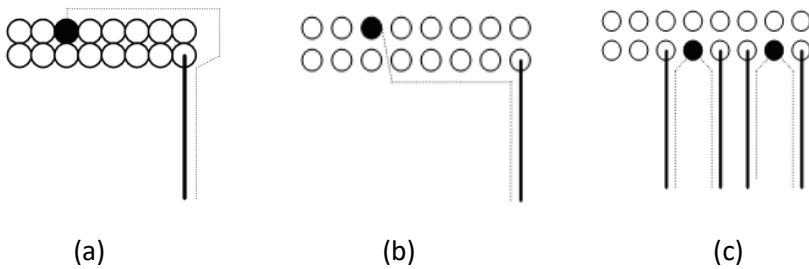

Figure 4.1
4.2.2: Excessive Pin Clearance: Figure 4.1 (a) illustrates a trace leading to a pin on a connector. Clearance pads are so large that there is no copper for the return trace to find its way through to a ground pin. Thus, the return signal must circle around the connector to the ground pin, causing what might be a significant loop resulting in unacceptable EMI radiation. A better strategy is to limit the clearance so there are copper paths between the pins for the return signals to follow, as shown in (b). But the best strategy is (c), making appropriate pin assignments so that there is a ground (signal return) pin near every signal pin.